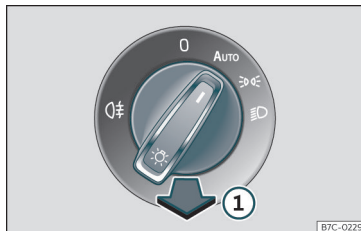

Fig. 88 Dash panel: lights control.
- **Turning on the rear fog light** (fog lamp symbol): pull the light switch fully out >>> Fig. 88 ① from position AUTO.